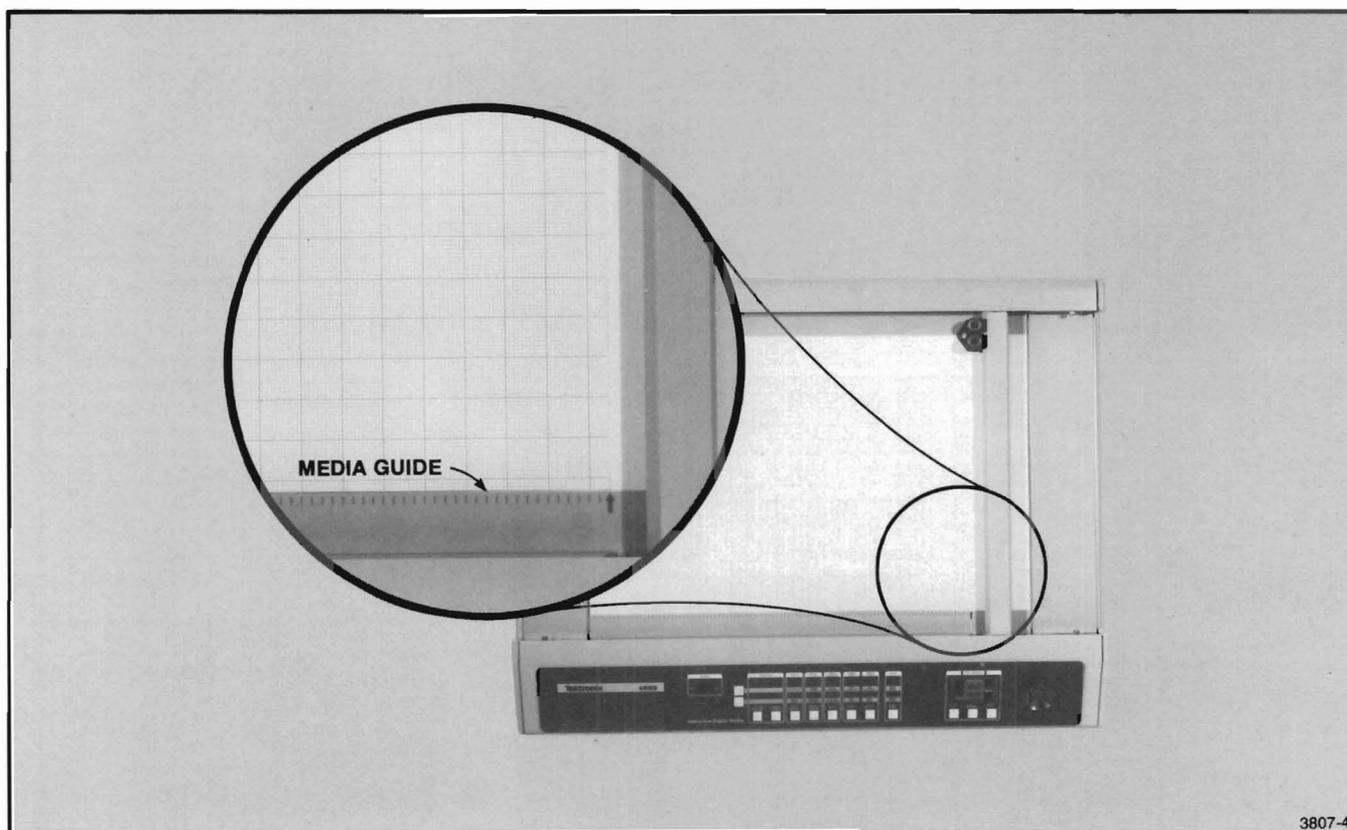

Figure 2-4. Positioning Media on the Platen.
2. **Place** the C-size sheet of media on the platen, aligning it with the arrow in the lower-right corner of the media guide. Align the bottom edge of the media evenly along the media guide. See Figure 2-4.